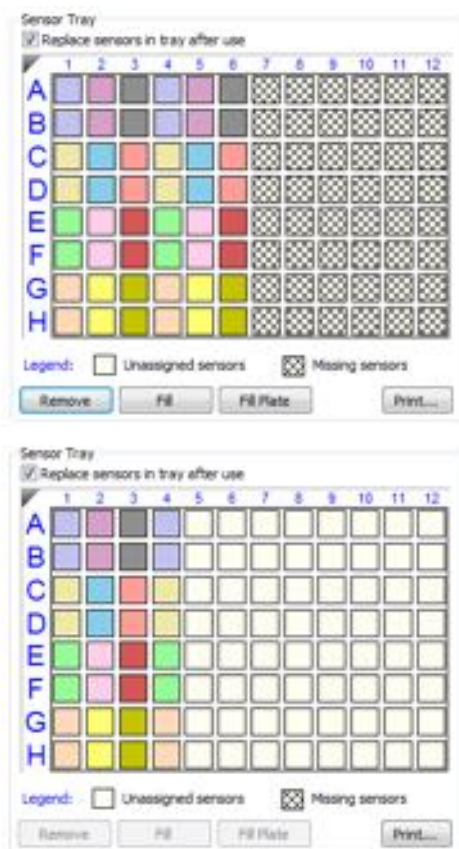

Figure 5-49: Example Assay Using One Partial Biosensor Tray and Biosensors from a Second Tray
2. To view the additional biosensor tray that is required for the assay, select Tray 2 from the **Sensor Tray** drop-down list (Figure 5-49). In the example shown, Tray 1 is a partial tray that does not contain enough biosensors for the assay. To designate a second tray, select Tray 2 from the **Sensor Tray** drop-down list (Figure 5-49 top). The **Sensor Tray Map** will then display the additional biosensors required for the assay (Figure 5-49 bottom).